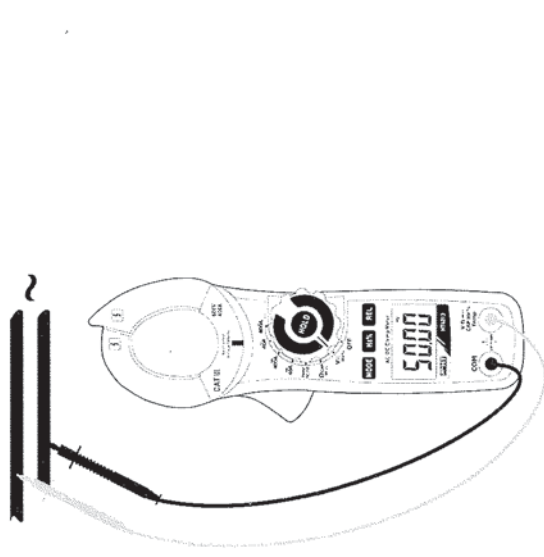

Fig. 4: Use of the clamp for frequency measurement and duty cycle
3. Insert the red cable into input terminal **VΩHz** and the black cable into input terminal **COM** (Fig. 4) for measuring frequency with leads. The value of frequency (Hz) or of duty cycle (%) is shown on the display.